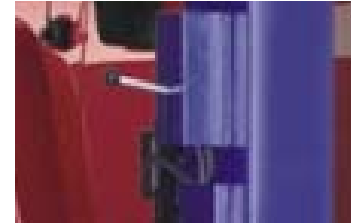

Fig. 2
Press the up button enough to allow the safety locks to be disengaged. Pull and hold down the safety lock release handle (Fig. 2) to release the safety locks.
12. Lower vehicle by pressing the Up button to disengage the safety locks. Pull and hold down the safety lock release handle (Fig. 2) to release the safety locks then press the lowering handle (Fig. 1) until the lift is completely lowered.